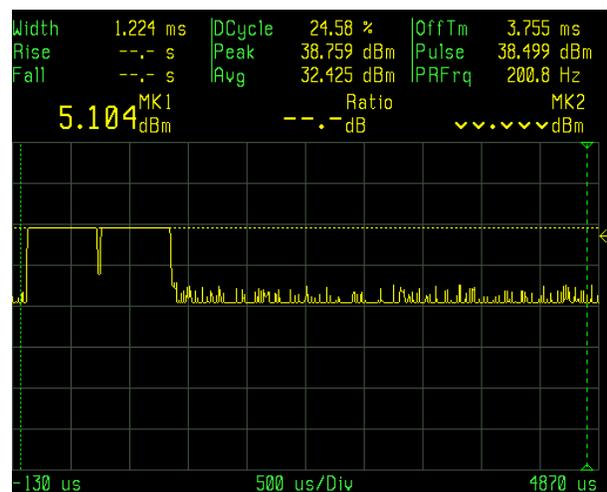

Figure 2: GSM Waveform with 2 Time Slots Open
**Figure 2** is an example of the same GSM system, where only two slots are transmitting data. As you can see, the signal has the same power in the first two slots, but no power is present on the other six slots. While this radio is fully functioning, the same true average power measurement would read only 24% of the rated power on the radio. This may appear as either the radio or power meter malfunctioning.